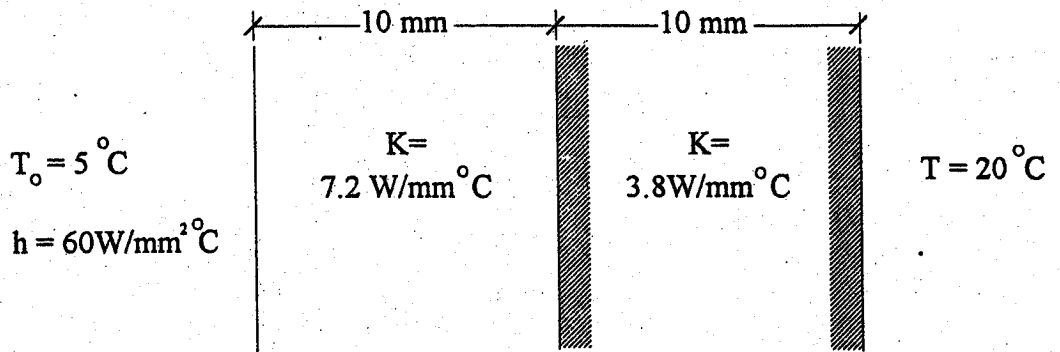

FIGURE 2
- (a) Develop the finite element equations for the rod using the functional $\Pi(u)$. (10)
- (b) Model the rod as a simple two-noded truss element and solve for the end displacement $u(L)$ in terms of the given physical parameters. (5)
- (c) Comment briefly on the accuracy of your solution. (5)
2. A composite wall is composed of two sections with properties as given in Figure 2. Convection occurs on the left hand side whereas the right hand side is held at 20°C .